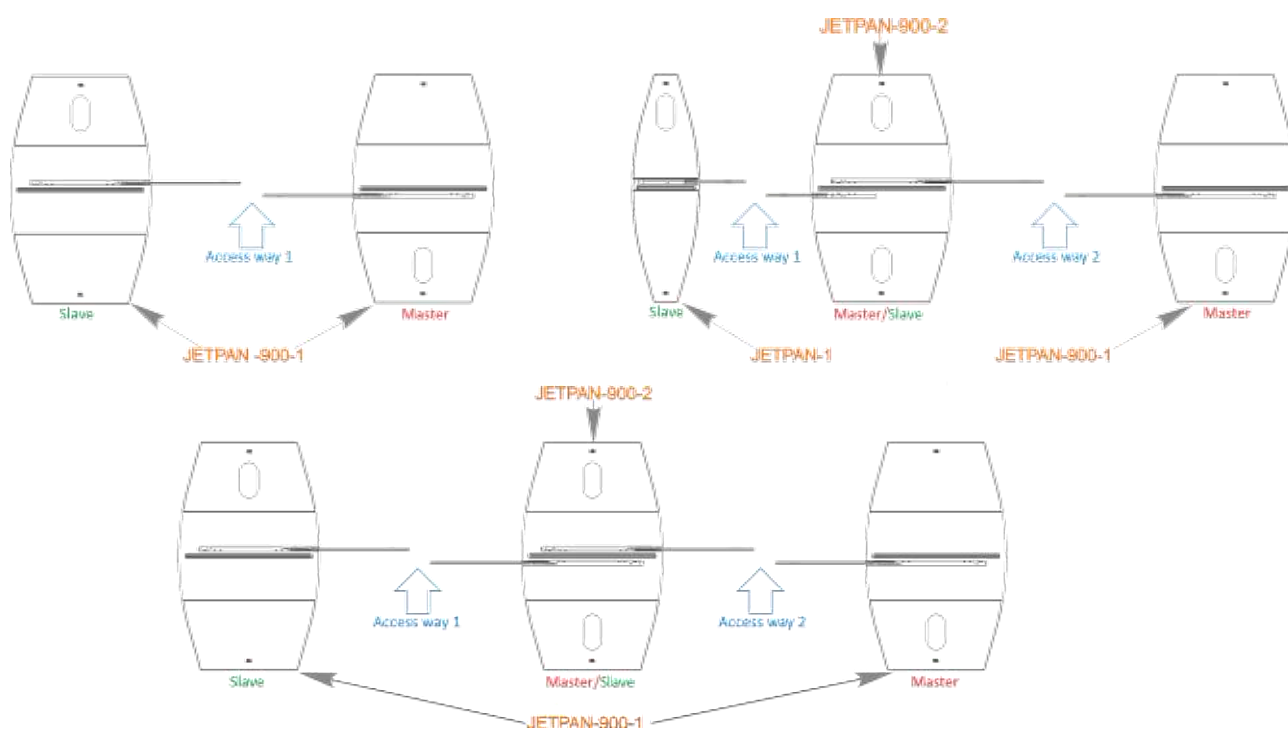

Fig. 11 – «JetPan-900» type turnstile layout options
2.2.5 General layout of the “JetPan-900” turnstile passage ways (Fig.11)